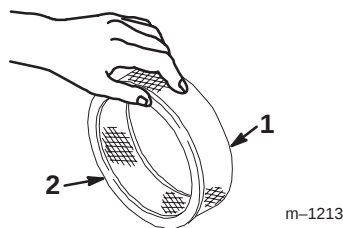

Figure 30
5. Lightly tap the paper filter on a flat surface to remove dust and dirt (Fig. 30).